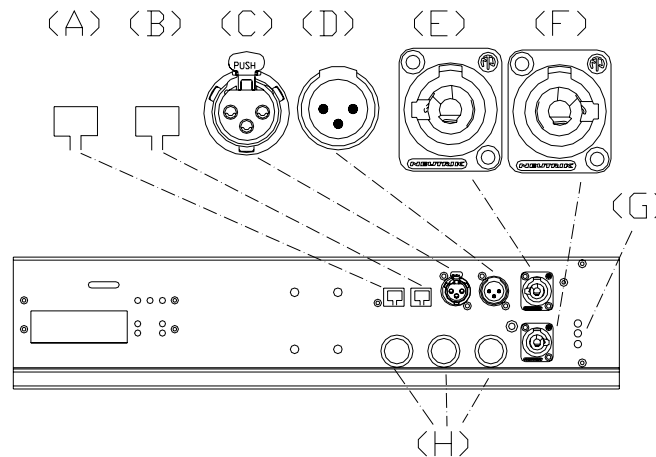

Fig.9. Connections panel for **MA-206/D**
If you are not using **MA-206** in combination with low frequency reinforcement units, plug the output of mixer into the first unit of **MA-206/D** Input. (Fig.9. **INPUT SIGNAL (C)**).
Feed the first unit of **MA-206/D** through **AC INPUT** connector (Fig.9.(E)). and simply daisy chain the second unit of **MA-206/D** through **AC STACKING OUTPUT**.
Connect the 3 signal outputs from the **MA-206/D** (Fig.9.(H)) to the Speakon inputs of each **MA-206/P**.
For the DSP control via PC/Laptop simply connect the PC output to the **RJ45 INPUT** (Fig.9.(A)) of the first **MA206/D** unit and daisy chain the signal to the second of **MA206/D** unit through **RJ45 LINK** (Fig.9.(B)).